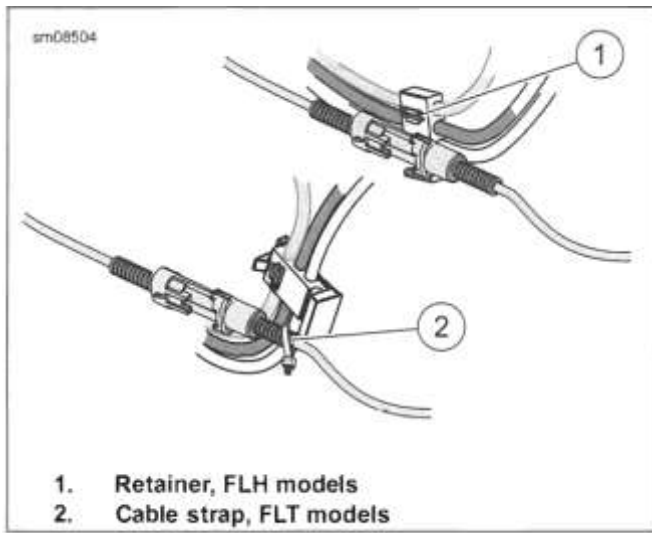
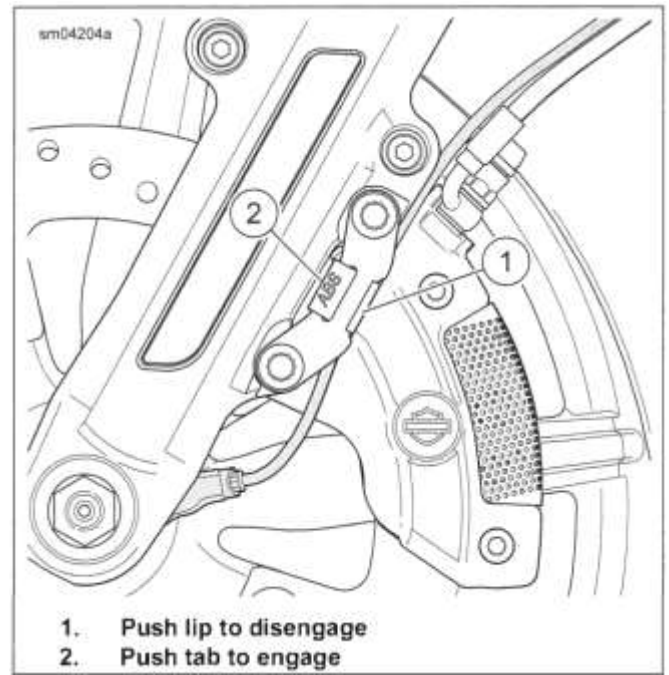

Figure 8-107. Front WSS Connector
Figure 8-108. Front Wheel Speed Sensor Cable Clip
3. See Figure 8-107. Separate sensor connector (2).
- a. **FLH models:** Remove sensor cable from retainer (1) on caddy.
- b. **FLT models:** Cut cable strap (2) securing sensor cable to brake line.
4. See Figure 8-108. Release sensor cable from clip at caliper:
- a. Push on lip (1) at rear of clip to disengage from bracket. Rotate tab (2) (stamped ABS) rearward until clip is perpendicular to bracket and remove cable.
- b. Rotate tab (2) forward until clip is aligned with bracket and apply pressure to tab until lip (1) engages.
6. See Figure 8-107. Continue to right steering head caddy. Mate connector.
- a. **FLH models:** Secure connector on retainer (1) on caddy.
- b. **FLT models:** Secure sensor cable to brake line just below the caddy with **new** cable strap (2).
8. See Figure 8-108. Install WSS cable in retaining clip:
- a. Push on lip (1) at rear of retaining clip to disengage from bracket. Rotate tab (2) (stamped ABS) rearward until retaining clip is perpendicular to bracket. Install cable.
- b. Rotate tab (2) forward and apply pressure until lip (1) engages. Gently tug on cable to verify that retaining clip is properly installed.